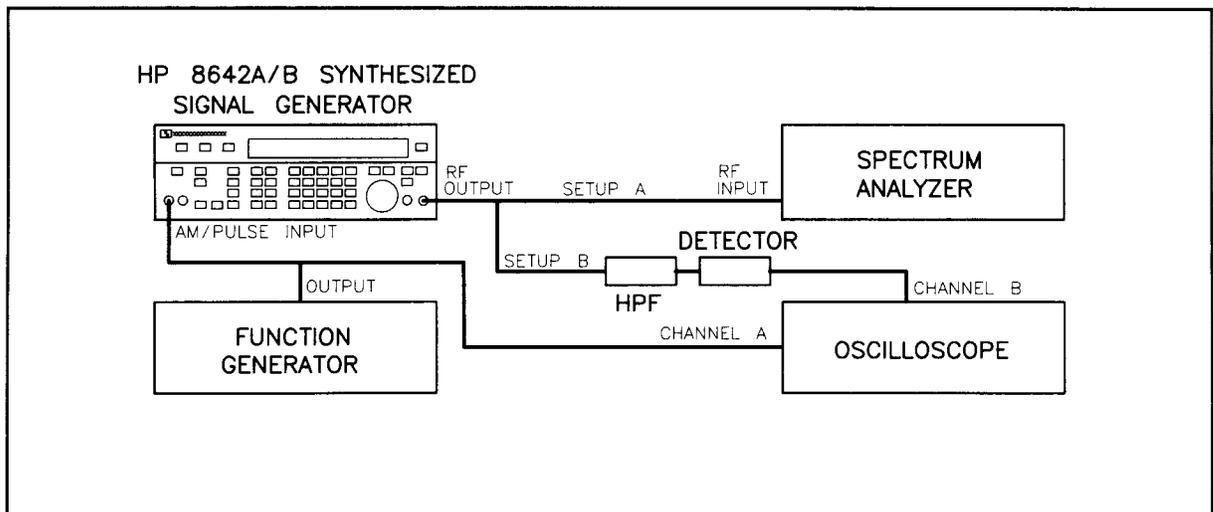

Figure 4-13. Pulse Test Setup
1. Connect the instruments as Setup B in Figure 4-13. Preset the instruments. Insure that the detector is connected directly to the oscilloscope.
Change the equipment to Setup A in Figure 4-13. There should be a broad trace that covers the top half of the spectrum analyzer display. The top of the trace is the pulse on amplitude and the bottom is the pulse off amplitude; determine the difference in level and verify that the value is within the specified limits given in the table below.